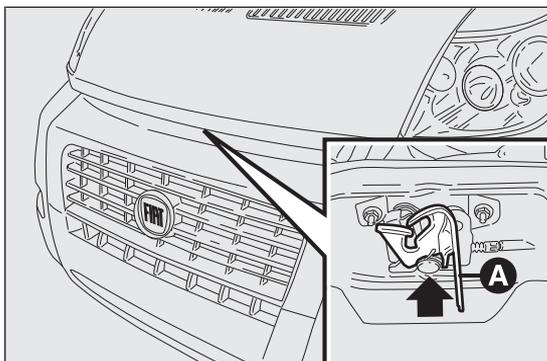

fig. 127
- pull lever A fig. 127 as shown in the figure;